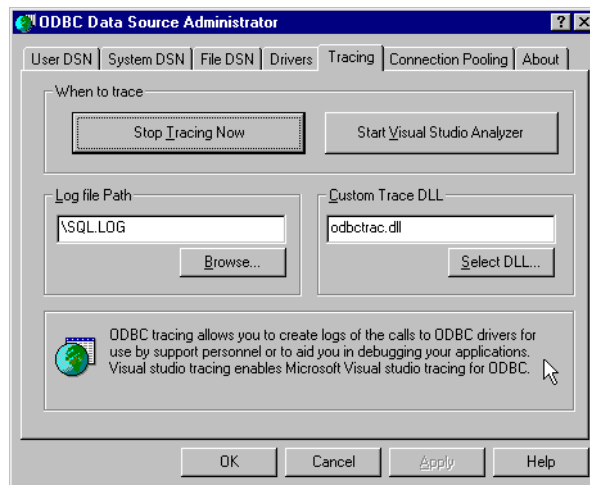

Figure 417. Stop ODBC trace
4. Select the **Tracing** tab again, and click **Stop Tracing Now** to end the trace. Do not leave the trace running since it will have a severe performance impact on ODBC jobs (Figure 417).